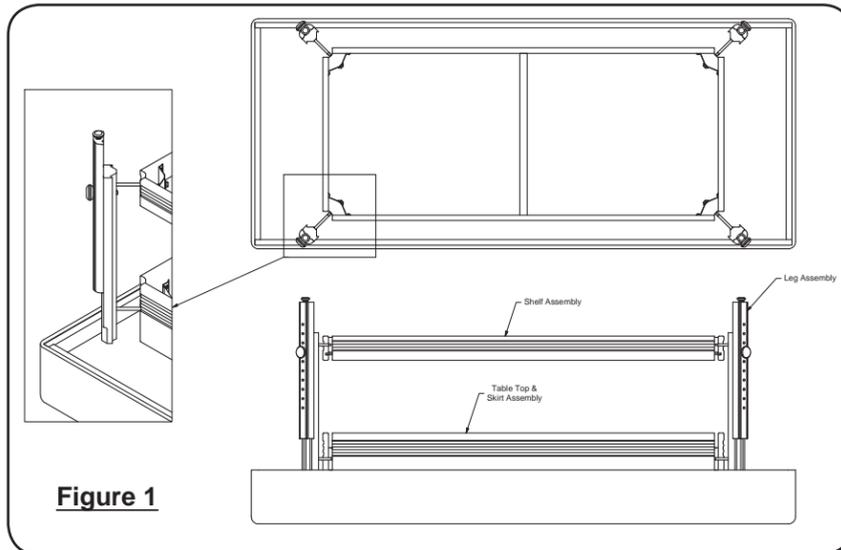

Figure 1
- 2) Place the shelf upside down on top of the table skirt. (Fig. 1)
- 3) Place the top leg bolt through the metal corner bracket in one corner of the table skirt. (Fig. 1 inset) For flex top models, it may be necessary to raise the foot section to install the leg.